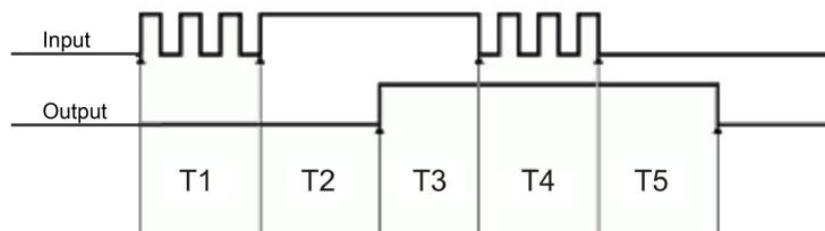

Figure 5. Trigger after stable mode
In the *trigger after stable* mode, the output of the debounce module does not change state until a period of stability has been achieved. This means that the input has an edge, and then must be stable for a period of time equal to the debounce time. Refer to Figure 5.
- T1 – In Figure 5, the input signal goes high at the beginning of time period T1, but never stays high for a period of time equal to the debounce time setting (equal to T2 for this example.)